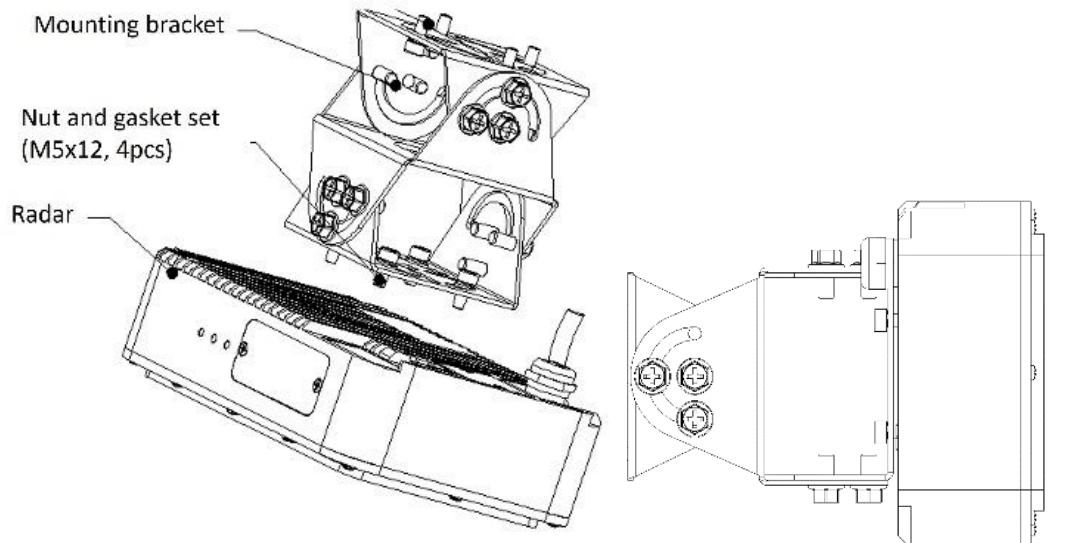

Figure 4 Example of the mounting bracket
- 1) **Secure the radar.** Mount the radar on the wall or the pole using a mounting bracket. The mounting bracket is not in the package. It is recommended to use the mounting bracket as illustrated in Figure 4 to mount the radar. Please note that it is very important to firmly secure the radar and avoid any vibration.